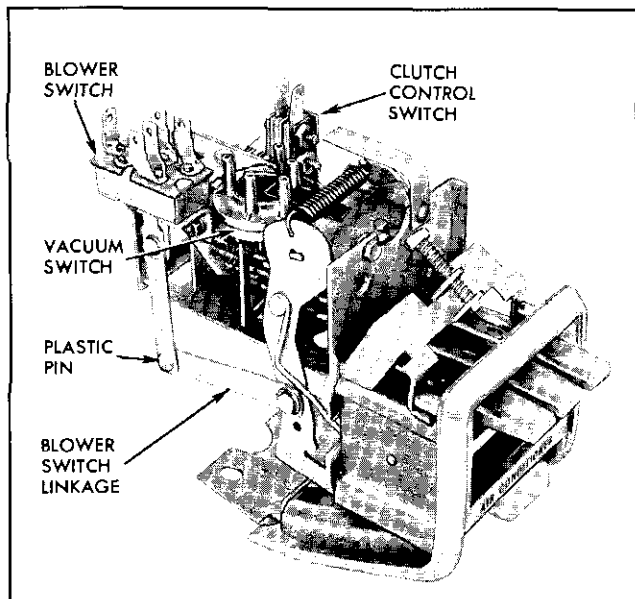

Fig. 6-46 Control Panel Blower Switch and Linkage
3. Remove blower switch and switch lever arm as an assembly by removing the two switch attaching screws (Fig. 6-46).